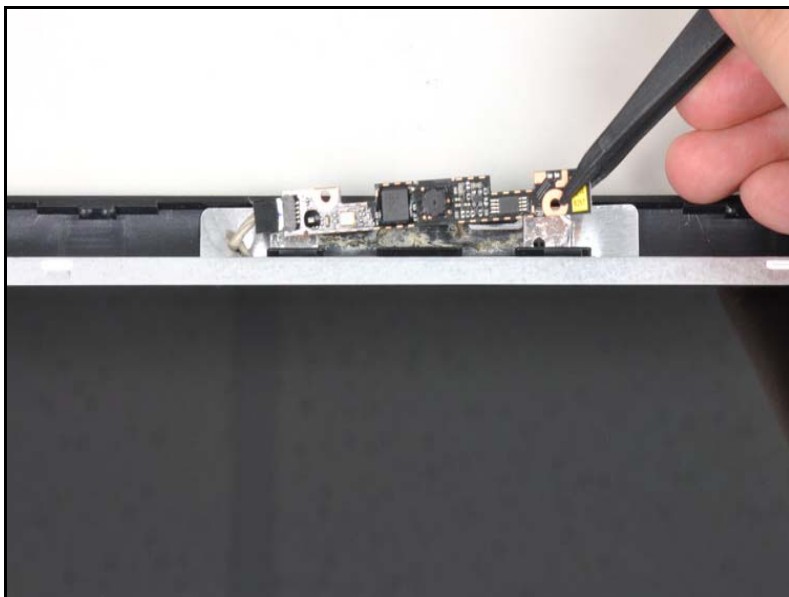

Figure 3-45. Camera Module Removal
1. Lift the camera module from the LCD cover (Figure 3-45).
2. Place the camera module on the LCD module. Refer to Figure 3-45.